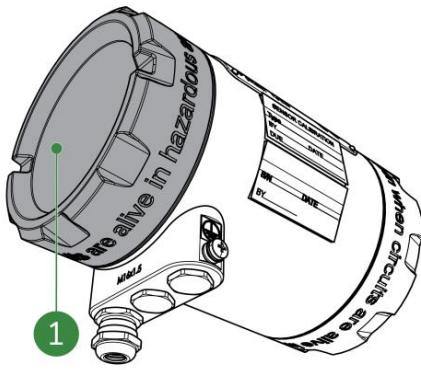

Figure 5-29: Back lid
10. Close the back lid (Figure 5-29, pos. 1).